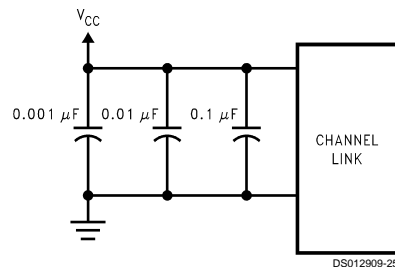

FIGURE 20. CHANNEL LINK Decoupling Configuration
**DECOUPLING CAPACITORS:** Bypassing capacitors are needed to reduce the impact of switching noise which could limit performance. For a conservative approach three parallel-connected decoupling capacitors (Multi-Layered Ceramic type in surface mount form factor) between each  $V_{CC}$  and the ground plane(s) are recommended. The three capacitor values are 0.1  $\mu F$ , 0.01  $\mu F$  and 0.001  $\mu F$ . An example is shown in Figure 20. The designer should employ wide traces for power and ground and ensure each capacitor has its own via to the ground plane. If board space is limiting the number of bypass capacitors, the PLL  $V_{CC}$  should receive the most filtering/bypassing. Next would be the LVDS  $V_{CC}$  pins and finally the logic  $V_{CC}$  pins.